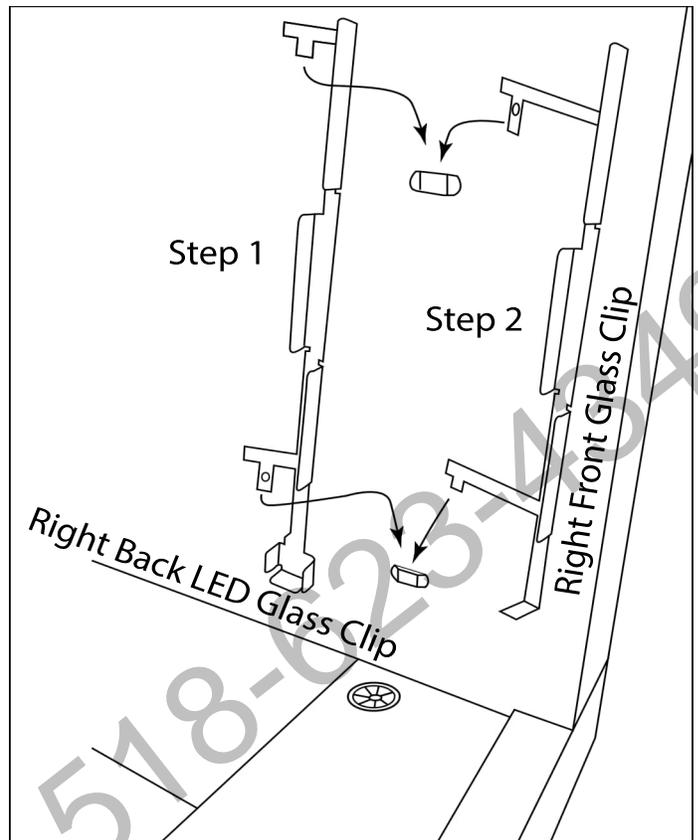

Figure 18 - Shows clip installed on right side of fireplace
NOTE: When converting to the see-through fireplace the glass windshield clips will need to be installed. See Figures 18 and 19 on Page 16. The clips will be packaged with the glass windshields. **The see-through fireplace requires windshields on both sides for proper operation.**
Install the LED glass clips by sliding them down through the metal bridges as shown in Figure 18. Install (1) clip on the left and (1) clip on the right side of the inner fireplace side panel. Note: If you are preparing an optional see-through fireplace you will install a total of (8) glass clips, two for each open side. The additional clips are supplied with the see-through conversion kit. Note: If you are preparing a see-through fireplace you will install a total of (8) glass clips, (4) on each open side.